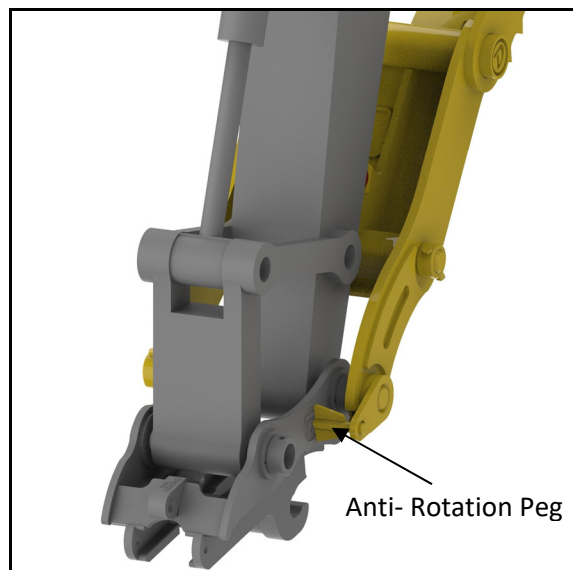

Figure 7 ANTI ROTATION PEG INSTALLATION
16. Ensure the bucket cylinder is fully retracted. Place the anti-rotation Peg inside the slotted hole in the end cap of the Pivot Pin. Position the end of the Peg against the side of the hitch. With the Peg centrally located in the slotted hole TACK WELD the end of the Peg to the side of the hitch. Ensure the pin is parallel to the Pivot Pin. See Figure 7